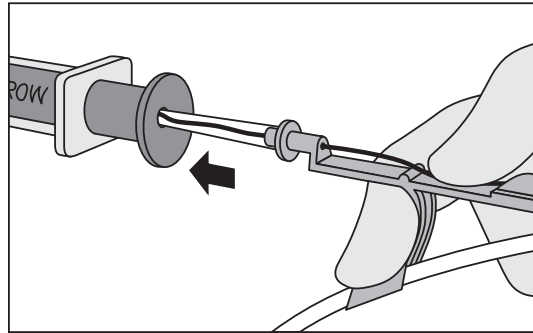

Figure 4
- Place tip of Arrow Advancer™ – with “J” retracted – into the hole in rear of Arrow® Raulerson Syringe plunger (refer to Figure 4) or introducer needle.